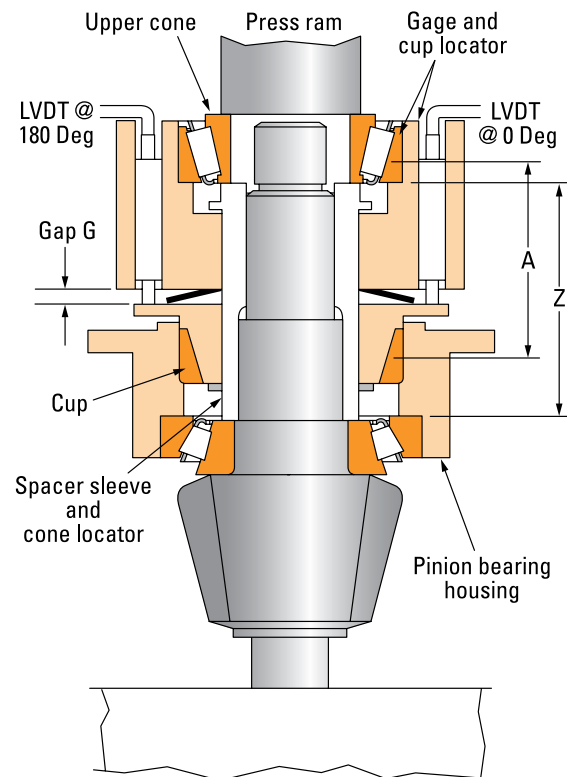

Figure 13. PROJECTA-SET Gauging Example With Pinion Shaft
To illustrate the PROJECTA-SET method, reference a typical spiral bevel pinion shaft assembly (Figure 13). In this indirect-mounted cone adjusted design, the bearing setting is achieved through the use of a spacer located between the two cone front faces. The cups and cones are tight fitted in this application. The required gauging steps are:
1. Place the assembled pinion shaft, except for the upper cone and spacer, on the press table. Position the gauge onto the upper bearing cup and apply the upper bearing cone (Figure 13).
4. The spacer size is determined by the gauge based on the formula (Figure 13): $S = Z - A + K$